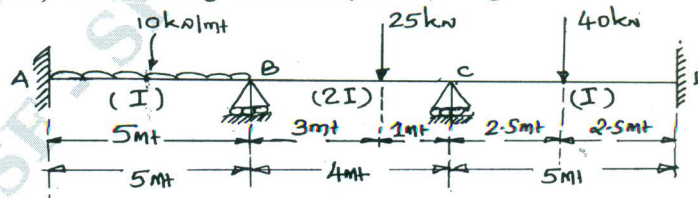

Fig.Q3
- 3 Analyse the continuous beam loaded as shown in Fig.Q3 by the moment distribution method. Draw Shear Force {SF} and Bending Moment {BMD} diagrams. (20 Marks)